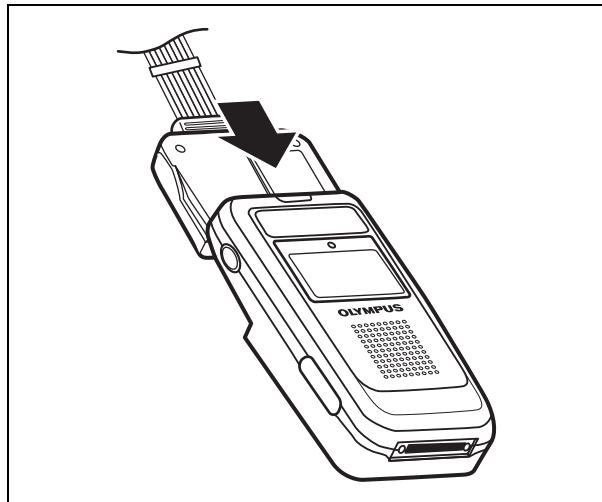

Figure 5.33
1. Connect the antenna lead set to the recorder unit by inserting the connection unit into the recorder unit until they click (see Figure 5.33).